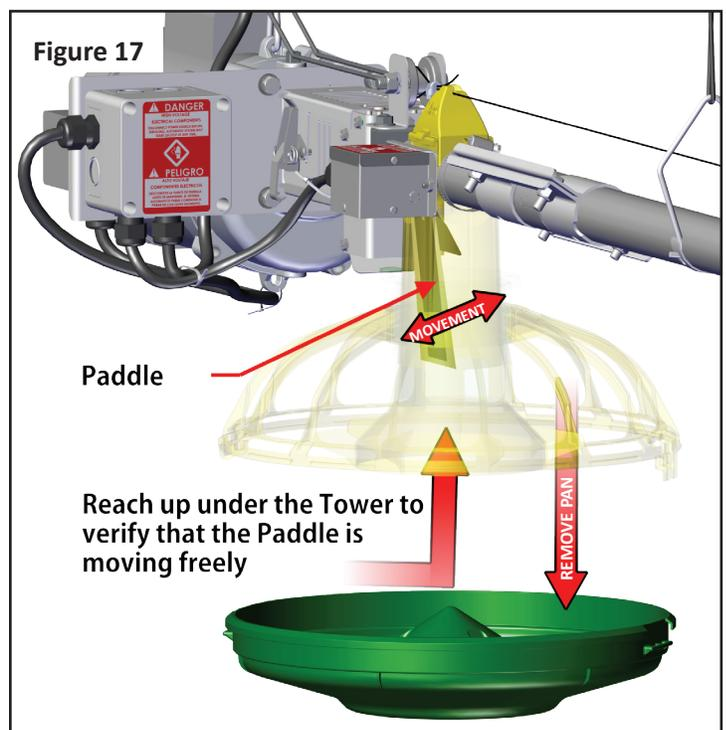

Figure 17
- Reach inside the bottom of the tower and move the paddle back to verify the paddle moves freely and opens and closes the switch, as shown in Figure 17.